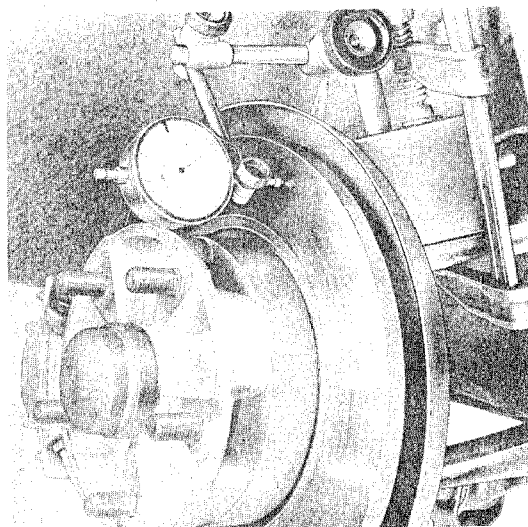

Fig. 16
6. Maximum permissible lateral whip of the brake disc is 0,2 mm (.079 in.). Fig. 16 shows method of checking lateral whip.